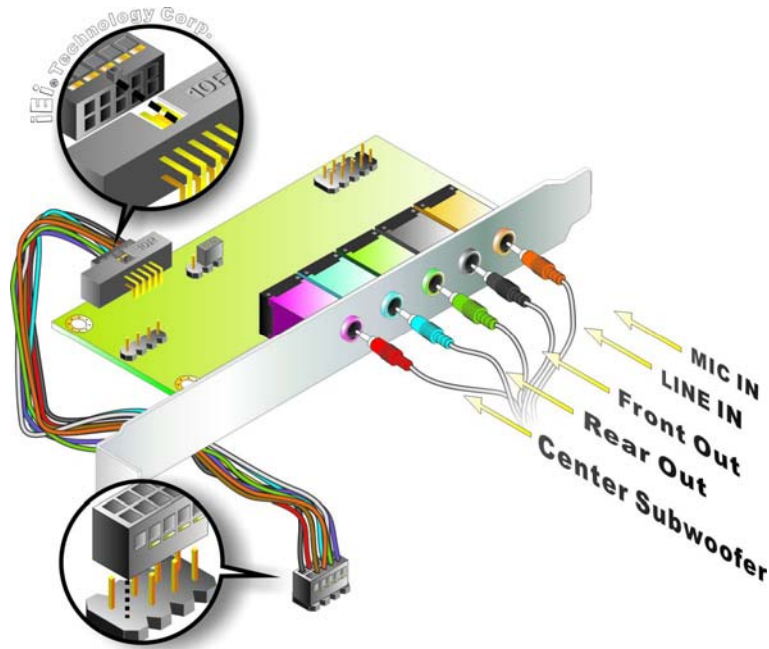

Figure 4-12: Audio Kit Connection
Step 3: Connect the audio devices. Connect the speakers and the subwoofer to the appropriate audio jack shown in **Figure 4-12**.